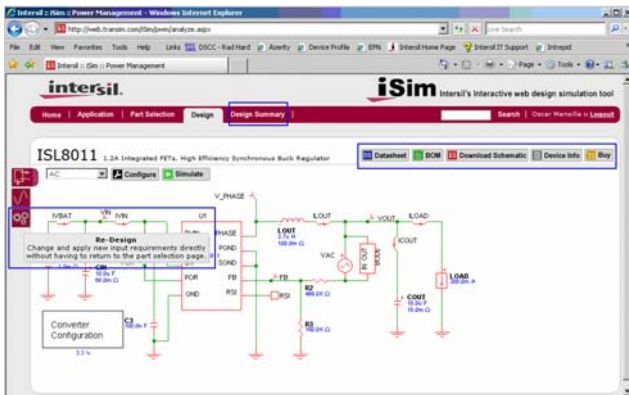

FIGURE 3. DESIGN SCHEMATIC PAGE
2. Links to Samples, Evaluation Board (if available), downloadable BOM, and Intersil's iBuy Direct (see Figure 3).
The link to download a schematic from iSim to iSim:PE is located on the Design Schematic page, in the tool bar on the upper right of the schematic (See Figure 3). It is only necessary to download iSim:PE once for use with any of the simulations, whether they are from the Power Management or Operational Amplifier side of iSim. The simulator package is the same for all models. Click on the link to download the schematic. When the download window opens, take notice of the download location for the schematic. Either use the prompted location, or choose a different location. Once the file is downloaded, close the download window. Open the iSim:PE command shell (if it is not already open), and select File > Open Schematic. Then select the schematic from the menu. It should be display in a new window. At this point, the user is ready to begin simulations. For more information on the use of the simulator itself, consult the Help menu on the Command Shell menu bar.